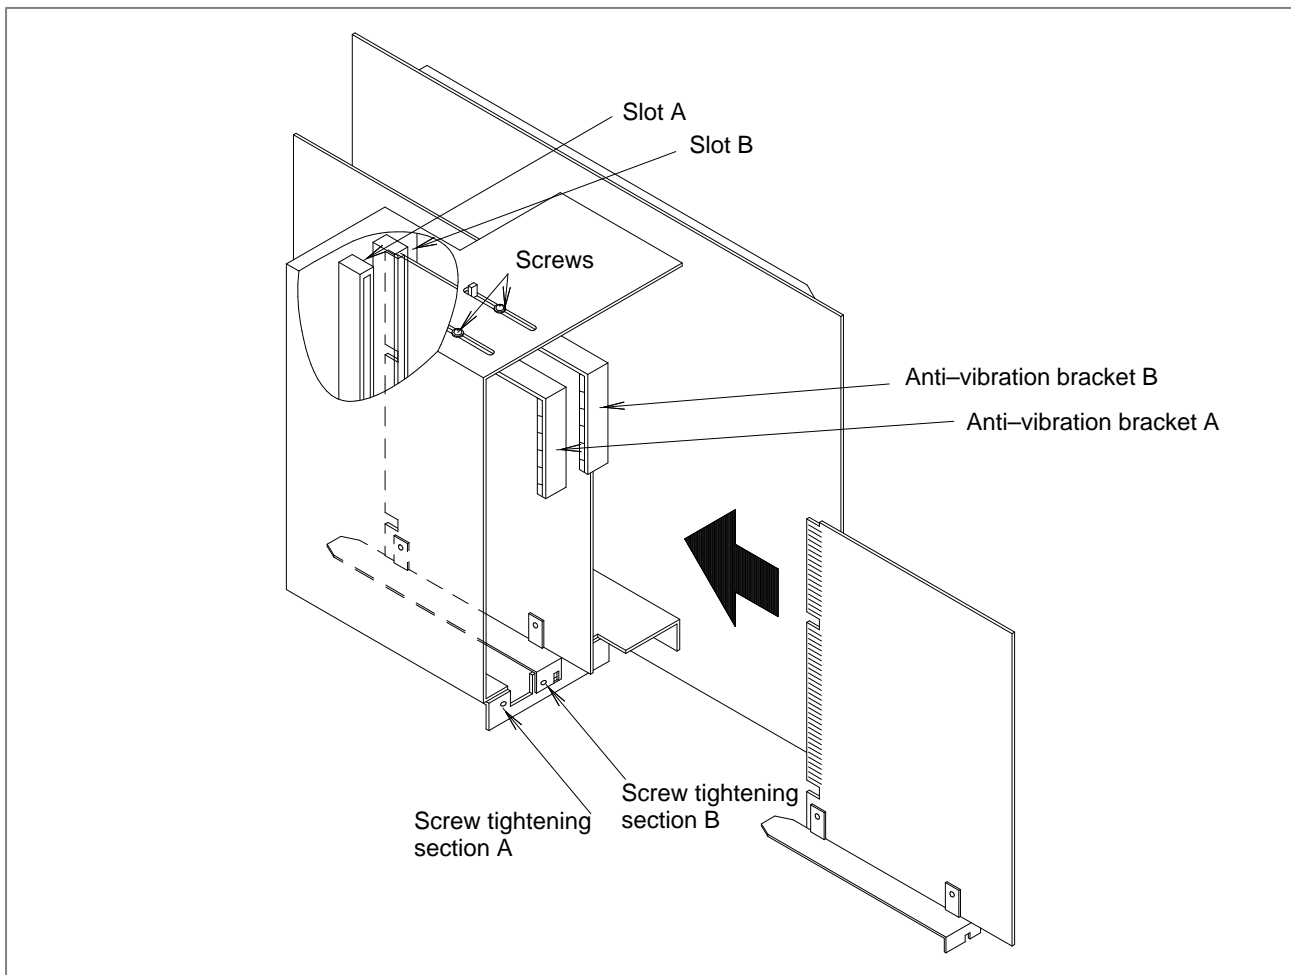

Fig. 7.12.6.1 Installing ISA expansion boards
- (2) ISA expansion board installation procedure(See Fig. 7.12.6.1.)